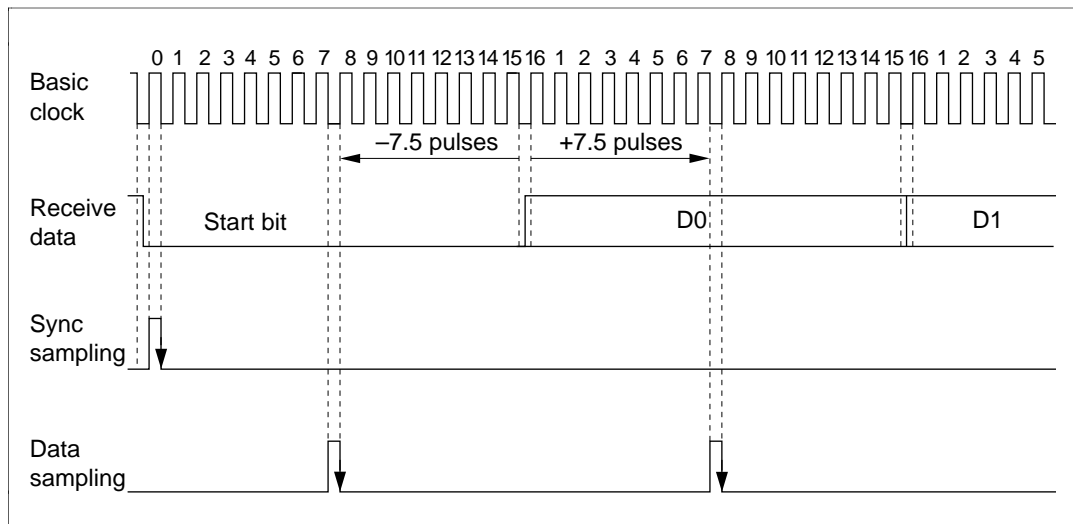

Figure 13-18 Sampling Timing (Asynchronous Mode)
(4) Sampling Timing and Receive Margin in Asynchronous Mode: The serial clock used by the SCI in asynchronous mode runs at 16 times the bit rate. The falling edge of the start bit is detected by sampling the RxD input on the falling edge of this clock. After the start bit is detected, each bit of receive data in the frame (including the start bit, parity bit, and stop bit or bits) is sampled on the rising edge of the serial clock pulse at the center of the bit. See figure 13-18.